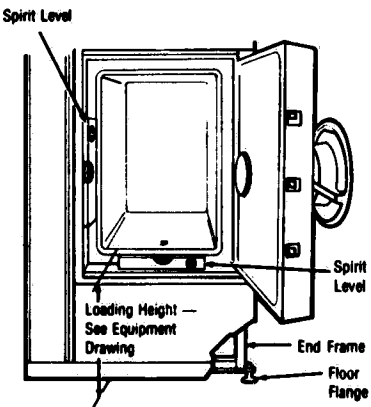

Figure 5-1. LEVELING STERILIZER.
- 1. Assure sterilizer shell is level (front to back) by placing a level on the vertical face of the end ring (at the hinge side). Assure sterilizer shell is level (side to side) by placing a level on the horizontal surface of the end ring. Adjust leveling feet accordingly to achieve level conditions. See Figure 5-1.